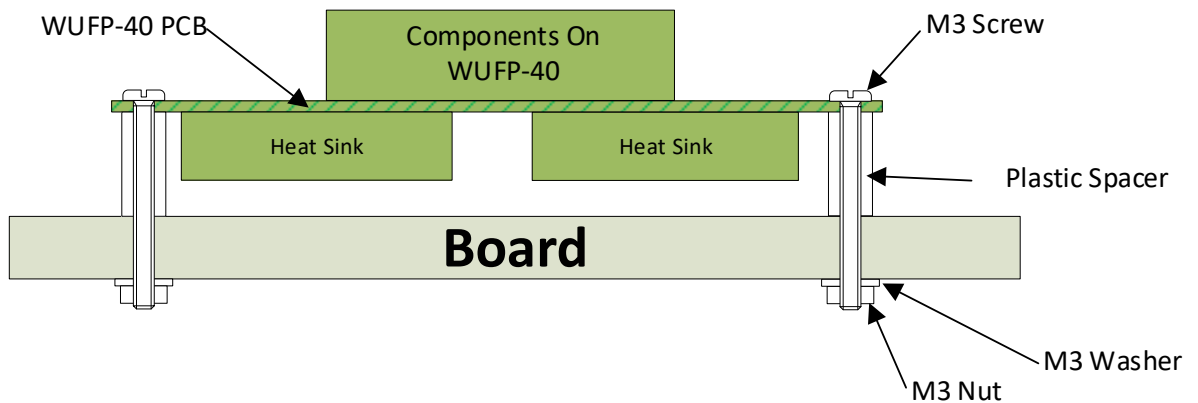

Figure 7 Mounting Suggestion
- (5) Mount the unit using the four M3 metric screws, nuts and spacers provided. Mount the unit on a suitable piece of board, either your baseboard (top or bottom) or a separate board perhaps at the front of your model railroad. The component side of the module should face away from the board as in Figure 7. Take care that no part of the unit touches any metal as this may cause a short circuit and result in permanent damage. Do not mechanically stress or bend the module as this may cause permanent damage. **Take care to ensure that there is adequate ventilation to avoid overheating.**